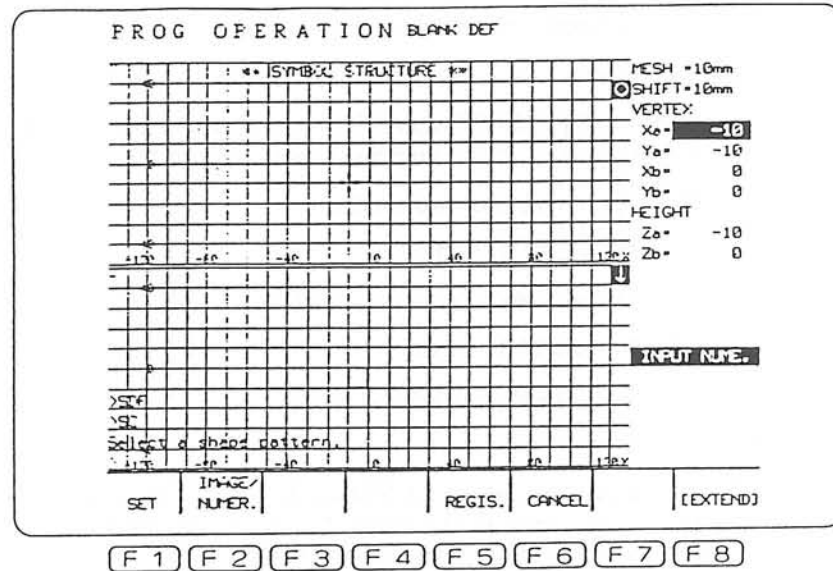
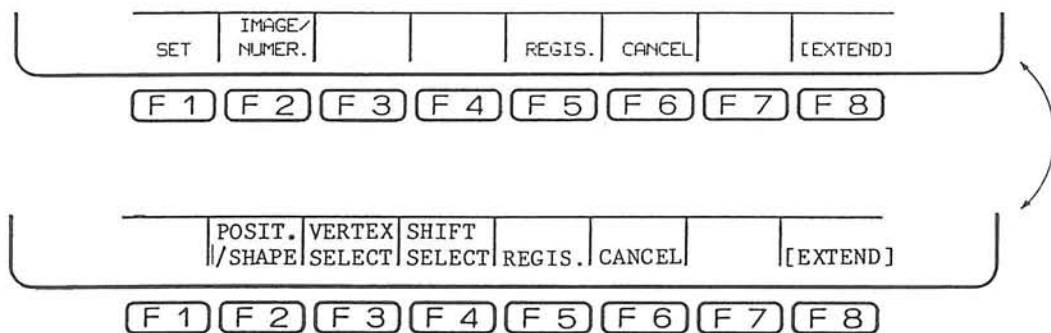

Fig. 4-20 Symbol Creation, Position, Size Setting Display
Fig. 4-21 Symbol Creation, Position, Size Setting Functions
After the pattern has been determined (item ②), the on-screen display will change to that shown in Fig. 4-20. The blank position and size setting method consists of two formats: numeric input, and image input.
① Numeric input format:
Press the function key [F2] (IMAGE/NUMBER.) until INPUT NAME is displayed in the lower right portion of the display shown in Fig. 4-20. At the right side of the display shown in Fig. 4-20, there are coordinate values which apply to each symbol item. Press the function key [F1] (SET), enter the numeric value, and press the **WRITE** key. This sets the desired coordinate values which determine the symbol position and size.
Press the [F2] (IMAGE/NUMBER.) function key until INPUT IMAGE is displayed in the lower right portion of the display shown in Fig. 4-20.
Press the function key [F2] (POSIT./SHAPE) shown in Fig. 4-21 until POSITION is displayed in the lower right portion of the display shown in Fig. 4-21. Use the cursor to move the symbol to the desired position.
Press the function key [F2] (POSIT./SHAPE) shown in Fig. 4-21 until SHAPE is displayed in the lower right portion of the display shown in Fig. 4-20. The desired shape can be determined by using the cursor key. The page key is used for magnification/reduction. The blank symbol pattern changes which occur by using the page and cursor keys are shown in Figs. 4-23 - 4-25.